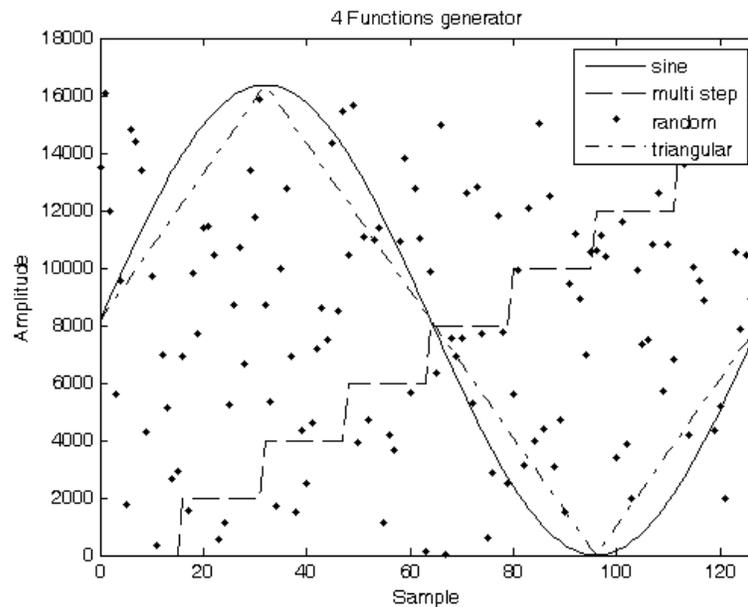

Fig. 1: Plot of 4 different functions.
5. Complete your M-file so that the required 4 functions,  $y_0, \dots, y_4$ , are plotted as shown in Fig. 1. Note that the output range is  $[0, 2^{14}-1]$  unsigned. Hint: For the triangular function use 3 sections: 32 values going up, 64 down, 32 up. For each section use counters like  $[0:31, \dots]$ . Then scale the amplitude to full range, i.e., 14 bits.